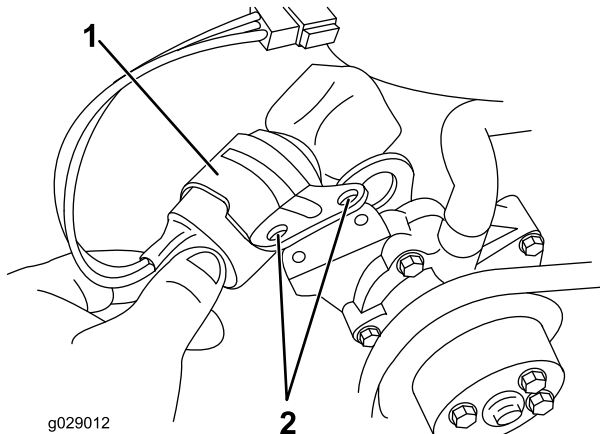

Figure 11
2. Position the replacement fuel-stop solenoid and **loosely** secure it with 2 bolts (Figure 11).